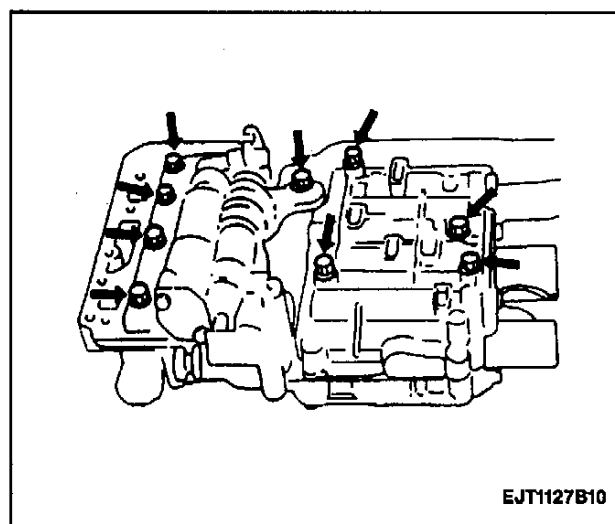

Figure 111—Upper Valve Body Bolt Location (03-72LE, 4-Speed)
10. Tighten upper valve body side bolts (Figure 111).